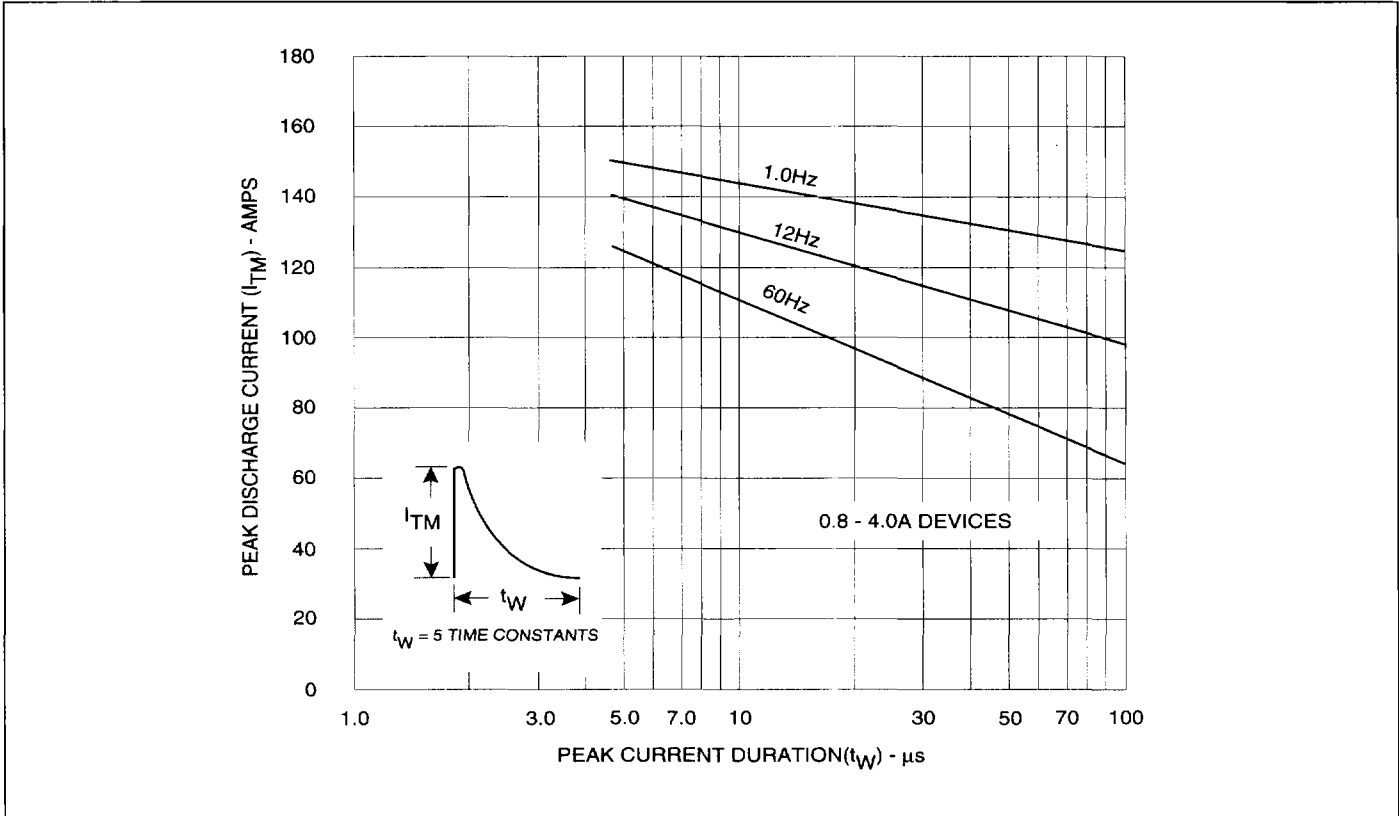

Figure 5.20 Peak Repetitive Capacitor Discharge Current
- 0.8 - 4.0A devices also have a pulse peak forward current on-state rating (repetitive) of 75A. This rating applies for operation at 60Hz, 75°C maximum tab (or anode) lead temperature, switching from 80V peak, sinusoidal current pulse width of 10 μs minimum, 15 μs maximum. See Figures 5.20 and 5.21.